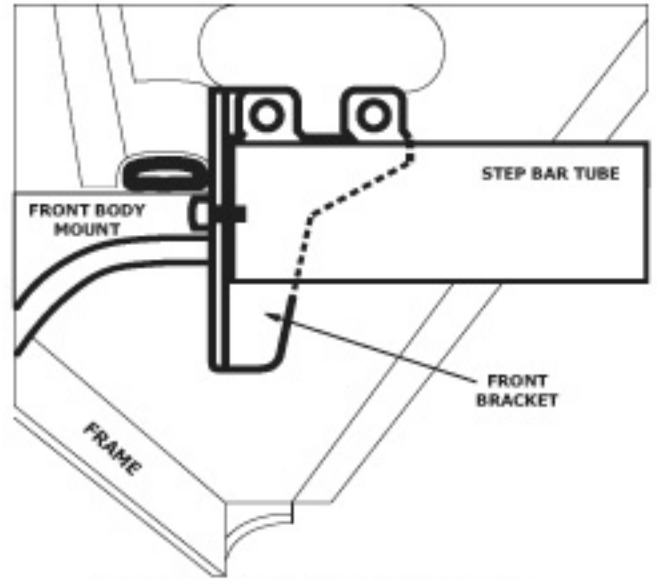

FIGURE 2 - FRONT DRIVER-SIDE
2. Locate and install the front brackets using the M10 x 30mm bolts and M10 Flat Washer/Lock Washers. Be sure to use a spacer washer between the bracket and mounting point to clear the body mount. **SEE FIGURE 2**